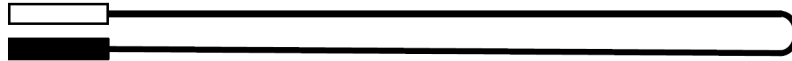

Figure 4-3 Accumulator heaters configuration
- The heaters are doubled up as shown in enlargement (1) and in Figure 4-3;